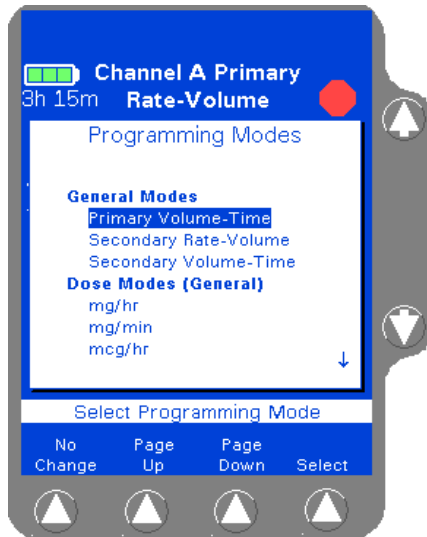

Figure 4-30 Programming Modes Menu
- Press the **Change Mode** soft key. The Programming Modes menu is displayed (Figure 4-30).